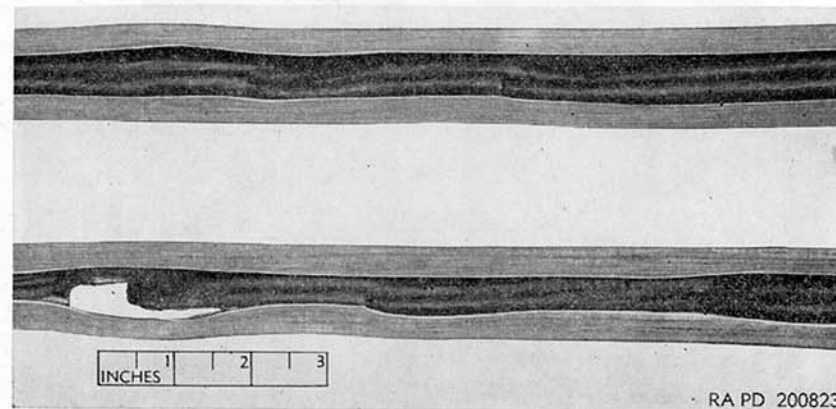

Figure 38. Barrel sections, cal..50 machine gun M3, damaged by firing when at excessive heat.
- (1) Figure 38 shows a failure of the barrel liner due to excessive heat. The bullet has passed through the side of the barrel.